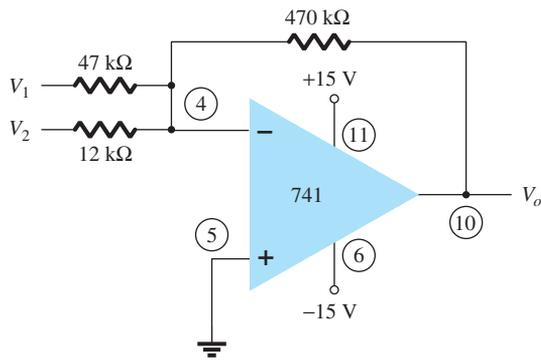

FIG. 11.50
6. Calculate the output voltage for the circuit of Fig. 11.50 with inputs of $V_1 = 40$ mV rms and $V_2 = 20$ mV rms.